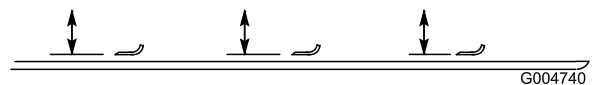

Figure 82
- Rotate the blade until the ends face forward and backward and measure from the inside of the mower deck to the cutting edge at the front of the blade (Figure 82).